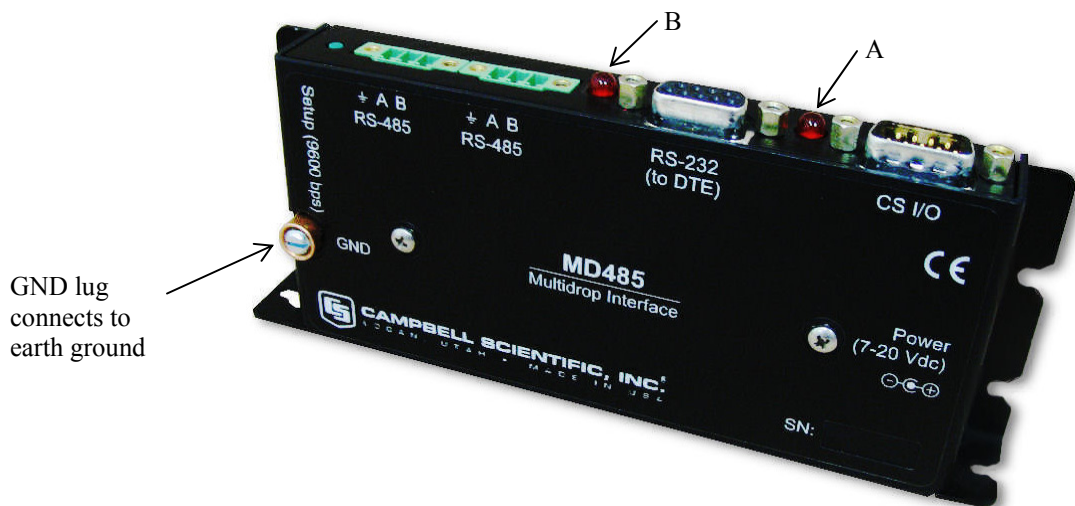

FIGURE 1. The MD485 has a ground lug that should be attached to earth ground and LEDs that indicate traffic on the ports.
The MD485 has a GND lug (see Figure 1). Connect this GND lug to earth ground with 8 AWG wire. This connection should be as short as possible.
When the RS-485 port is an active port, the LED nearest that connector (labeled B in Figure 1) indicates traffic on the RS-485 port, and the other LED (labeled A) indicates traffic on the other active port (CS I/O or RS-232). When CS I/O and RS-232 are the active ports, the LED between the CS I/O connector and the RS-232 connector (A) indicates activity on the CS I/O port, and the other LED (B) indicates traffic on the RS-232 port. When data is being received and transmitted, the LEDs will flash. The LED for the port that is transmitting will be on more than the LED for the receiving port.